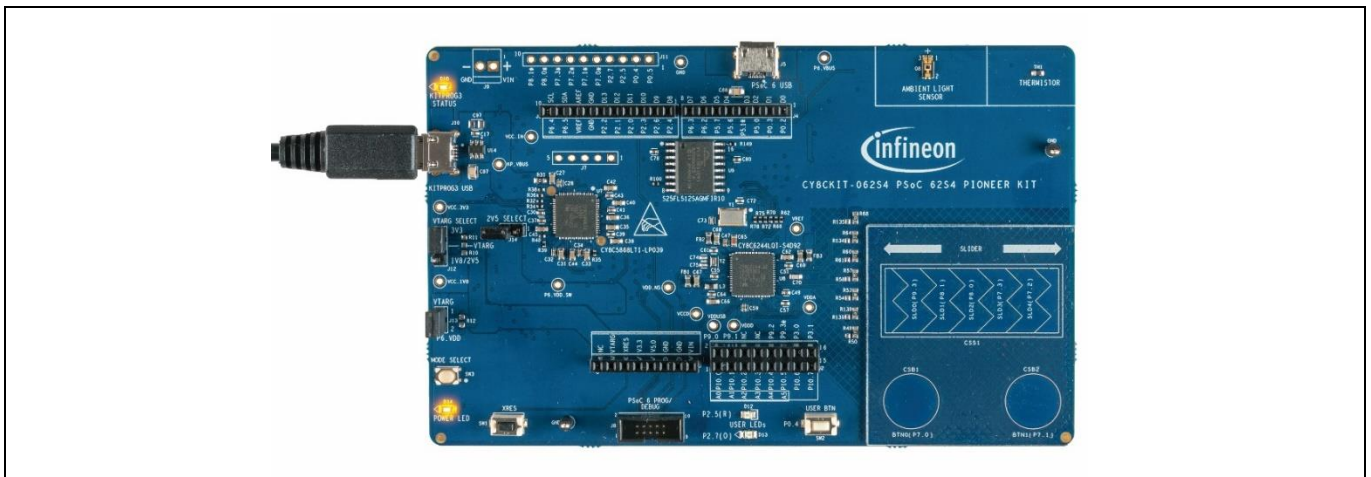

Figure 6 Connect USB cable to USB connector on the board
1. Connect the board to the PC using the USB cable, as shown in Figure 6. It enumerates as a USB composite device if you are connecting it to your PC for the first time. KitProg3 can operate either in CMSIS-DAP Bulk mode (default) or CMSIS-DAP HID mode. Programming is faster with the Bulk mode. The status LED (Yellow) is always ON in Bulk mode, ramping at 1-Hz rate in HID mode. see the KitProg3 user guide for details on the KitProg3 status and troubleshooting instructions.